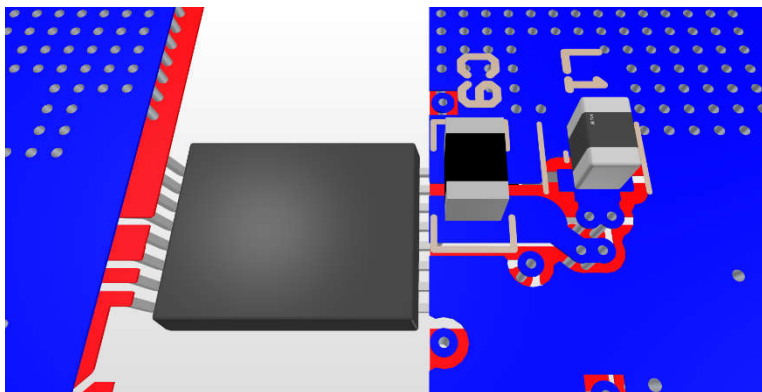

Figure 8-9. Bottom Side, Buck Boost, VEE LC Placement and Routing
- a. Place the 2.2 μ F high frequency bypass capacitor (C9) as close as possible to VEE and COM pins. The self-resonant frequency in 3MHz to 4MHz is most ideal to offer low impedance decoupling for the switching frequency noise of the buck-boost converter with the 3.3 μ H inductor (L1) selection. It is possible to put the capacitor on the different side of PCB and use vias to connect, in order to reduce the switching loop between the capacitor and the internal low-side MOSFET of the VEE buck-boost converter. In addition, putting the capacitor on different side will also simplify the decoupling capacitor placement of VDD pin and COM pin. An example of bottom side PCB placement of C9 and L1 is shown in Figure 8-9.